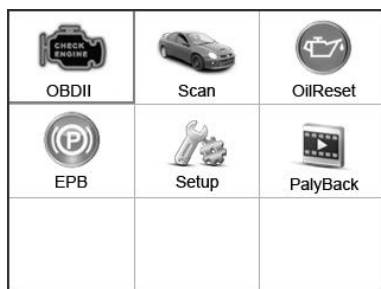
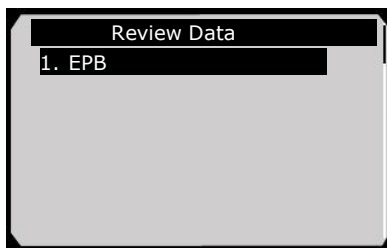

Figure 3.1
Figure 4.1
- 4) Power up the scan tool, and wait for the **Main Screen** to appear (Figure 3.1).
- 1) Use the **LEFT/RIGHT** scroll button or the **UP/DOWN** scroll button to select **Playback** from **Main Screen** (Figure 3.1), and press the **OK** button. Wait for the **Review Data** screen to appear (Figure 4.1).